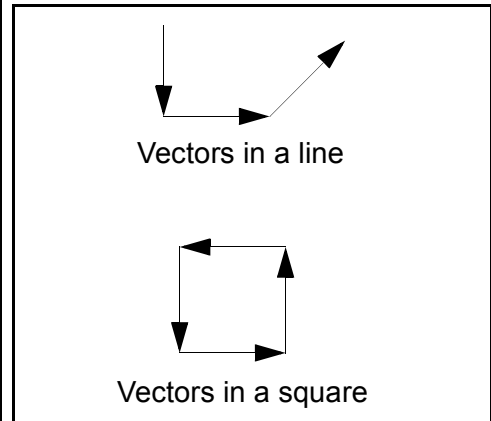

Figure 5.1 *Vectors*
*Figure 5.1* shows vectors in a line and vectors in a square.